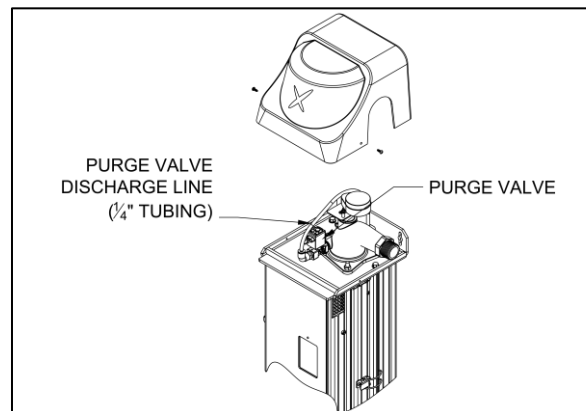

Figure 4-3
- Connect the purge valve to a drain using the tubing provided – see Figure 4.3. Note that an air gap is typically required between tubing and drain - follow local plumbing regulations. The tubing can be placed down the back side of the unit. The tubing should be secured to the wall or floor to prevent it from moving during the purging cycle. **During startup of the unit, it is strongly recommended to test the purge valve to confirm connections are free of leaks and the water discharges to drain.**